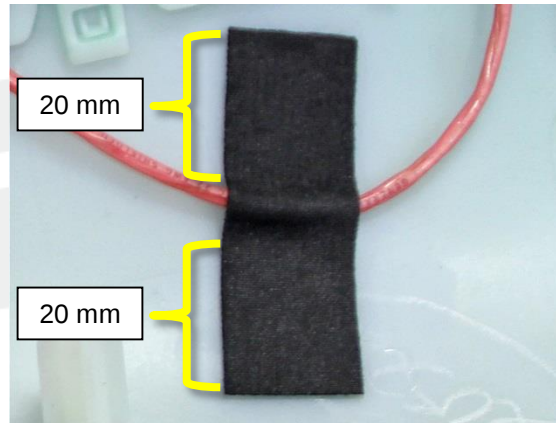

Figure 13
- f. Secure the wiring harnesses to the trim panel using the new black polyester electrical tape. Cut each tape strip approximately 7 cm in length. When applying the tape, center the harness so that there is at least 20 mm of tape on each side of the harness (Figure 13).
- f. Cut strips of tape long enough to have 20 mm of tape on each side of the harness (Figure 13)